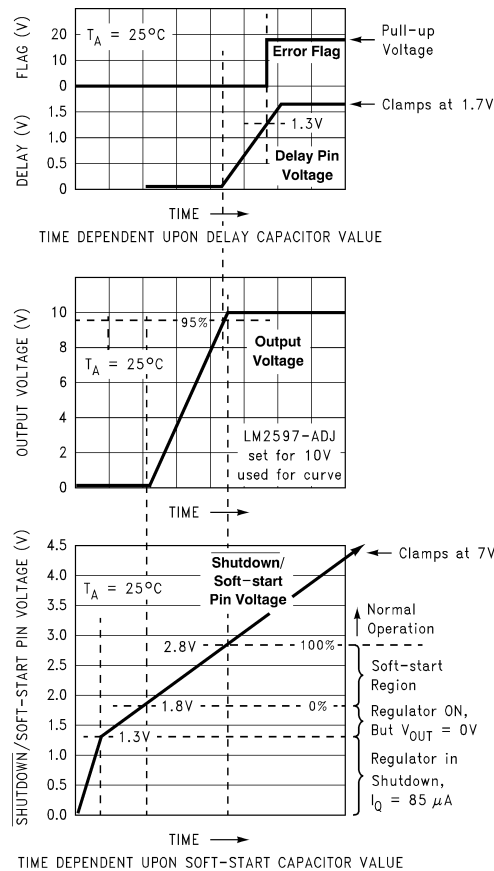
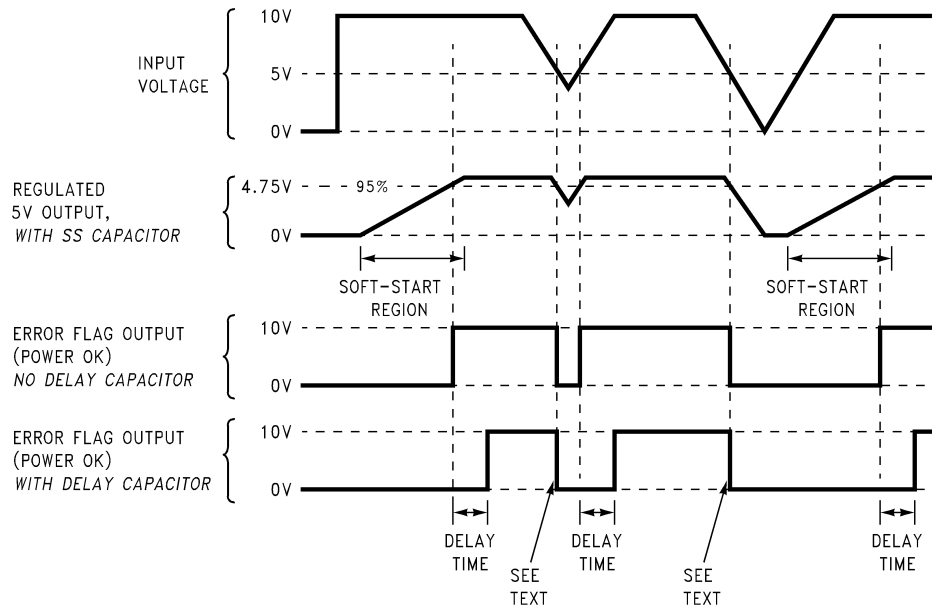

Figure 31. Soft-Start, Delay, Error, and Output
Figure 33. Timing Diagram for 5-V Output
A capacitor on this pin provides the regulator with a soft-start feature (slow start-up). When the DC input voltage is first applied to the regulator, or when the Shutdown/Soft-start pin is allowed to go high, a constant current (approximately 5 μ A) begins charging this capacitor). As the capacitor voltage rises, the regulator goes through four operating regions (see the bottom curve in Figure 31).
3. Soft-start Region – When the $\overline{\text{SD/SS}}$ pin voltage is between 1.8 V and 2.8 V (at 25°C), the regulator is in a soft-start condition. The switch (Pin 8) duty cycle initially starts out very low, with narrow pulses and gradually get wider as the capacitor $\overline{\text{SD/SS}}$ pin ramps up towards 2.8 V. As the duty cycle increases, the output voltage also increases at a controlled ramp up. See the center curve in Figure 31. The input supply current requirement also starts out at a low level for the narrow pulses and ramp up in a controlled manner. This is a very useful feature in some switcher topologies that require large start-up currents (such as the inverting configuration) which can load down the input power supply.
The lower curve shown in Figure 31 shows the soft-start region from 0% to 100%. This is not the duty cycle percentage, but the output voltage percentage. Also, the soft-start voltage range has a negative temperature coefficient associated with it. See the soft-start curve in Electrical Characteristics.
Provides delay for the error flag output. See the upper curve in Figure 31, and also refer to timing diagrams in Figure 33. A capacitor on this pin provides a time delay between the time the regulated output voltage (when it is increasing in value) reaches 95% of the nominal output voltage, and the time the error flag output goes high. A $3\text{-}\mu\text{A}$ constant current from the delay pin charges the delay capacitor resulting in a voltage ramp. When this voltage reaches a threshold of approximately 1.3 V, the open collector error flag output (or power OK) goes high. This signal can be used to indicate that the regulated output has reached the correct voltage and has stabilized.